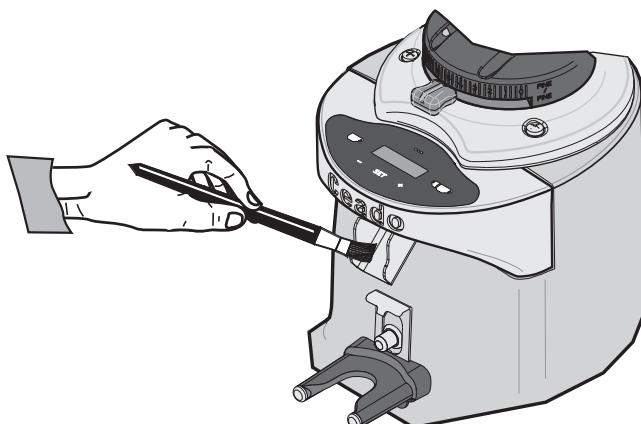

Fig. 7
- Use a brush or a paintbrush (Fig. 7) to clean the most hidden areas inside the unit and a dry cloth for the other surfaces.